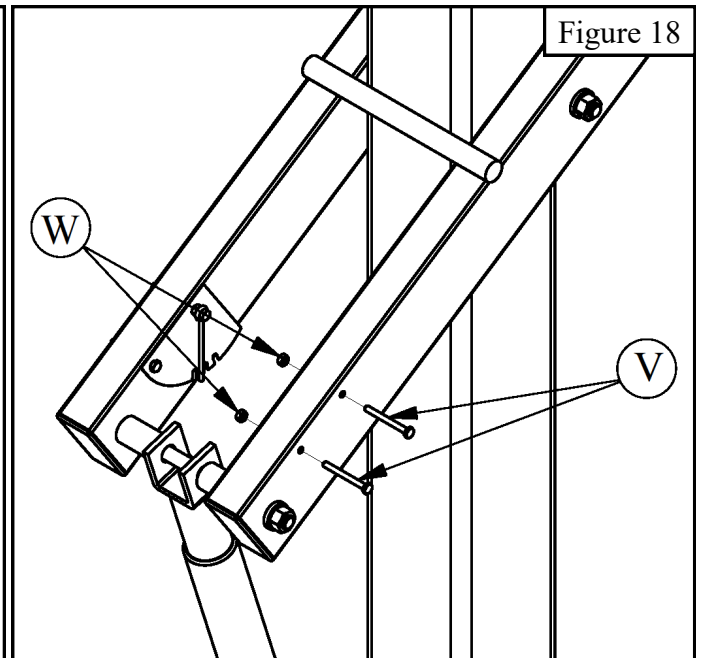

Figure 18
18. Crank the system up so the *Rim* (CC) is at 10', use a tape measure to assure the rim is at 10'. Adjust the *Height Gauge* (F) by rotating it so that it reads 10' then tighten the *Height Gauge* (F) hardware. Fill holes on the other side of the *Lower Arm* (C) with the $1/4'' \times 2 1/2''$ *Hex Bolts* (V) and $1/4''$ *Hex Nuts* (W). See Figure 18.
19. Install *Pole Pad* (DD) & *Backboard Padding* (EE) if applicable per the instructions included with them.